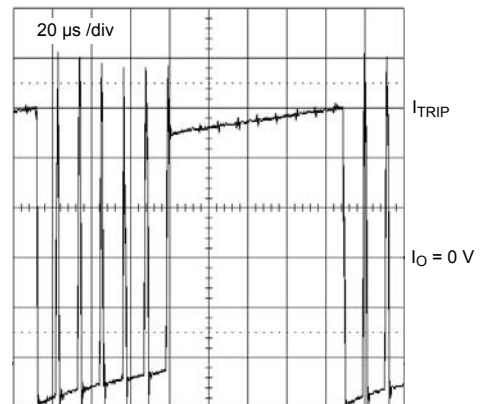

Figure 3.  $R_{sx}$  pins pattern during seeking behavior
increase in the  $R_{sx}$  input voltage level. The voltage at which motor coil short-circuit protection starts its operation,  $V_{OCP}$ , is set at approximately 0.7 V. In order for the motor coil short-circuit protection circuit to operate,  $V_{RSx}$  must be greater than  $V_{OCP}$ . Excessive current that flows without passing the external sense resistors ( $R_{SEExt}$ ) is undetectable. The function is shown in figure 3.
Figure 3. Motor coil short circuit protection circuit operation. Overcurrent that flows without passing the sense resistor is undetectable. To recover the circuit after protection operates,  $V_{DD}$  must be cycled and started up again.
**Blanking Time and Seeking Phenomenon** By shortening blanking time, current control can be improved, but the ability to prevent ringing noise will be reduced, and a seeking phenomenon might occur, shown in figure 3. As a countermeasure against the seeking phenomenon, the SI-7321M offers two blanking times, selectable via the  $B\_SEL$  pin, 1.8  $\mu\text{s}$  and 3.6  $\mu\text{s}$ . Torque reduction or motor noise issues caused by the phenomenon may be improved by using the longer time.